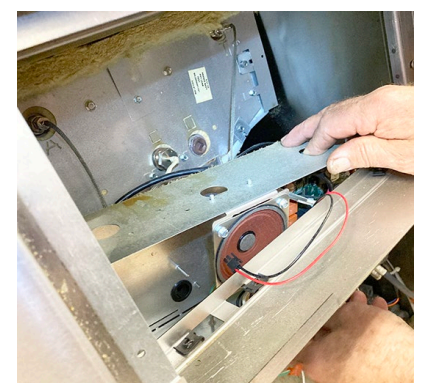

Figure 26
29. Gently lower the component box down and out of the way exposing the probes on the front of the frypot (see Figure 26).